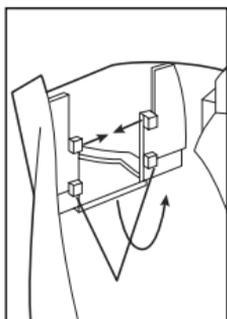

Figure 2
3. To remove the filter baffle (See Figure 2): Remove the filter, slide the top baffle clips inwards until they clear the tops of the baffle mounts, slide the baffle down until the bottom baffle clips clear the bottoms of the baffle mounts, then move the baffle back towards the handle, and lift it out.